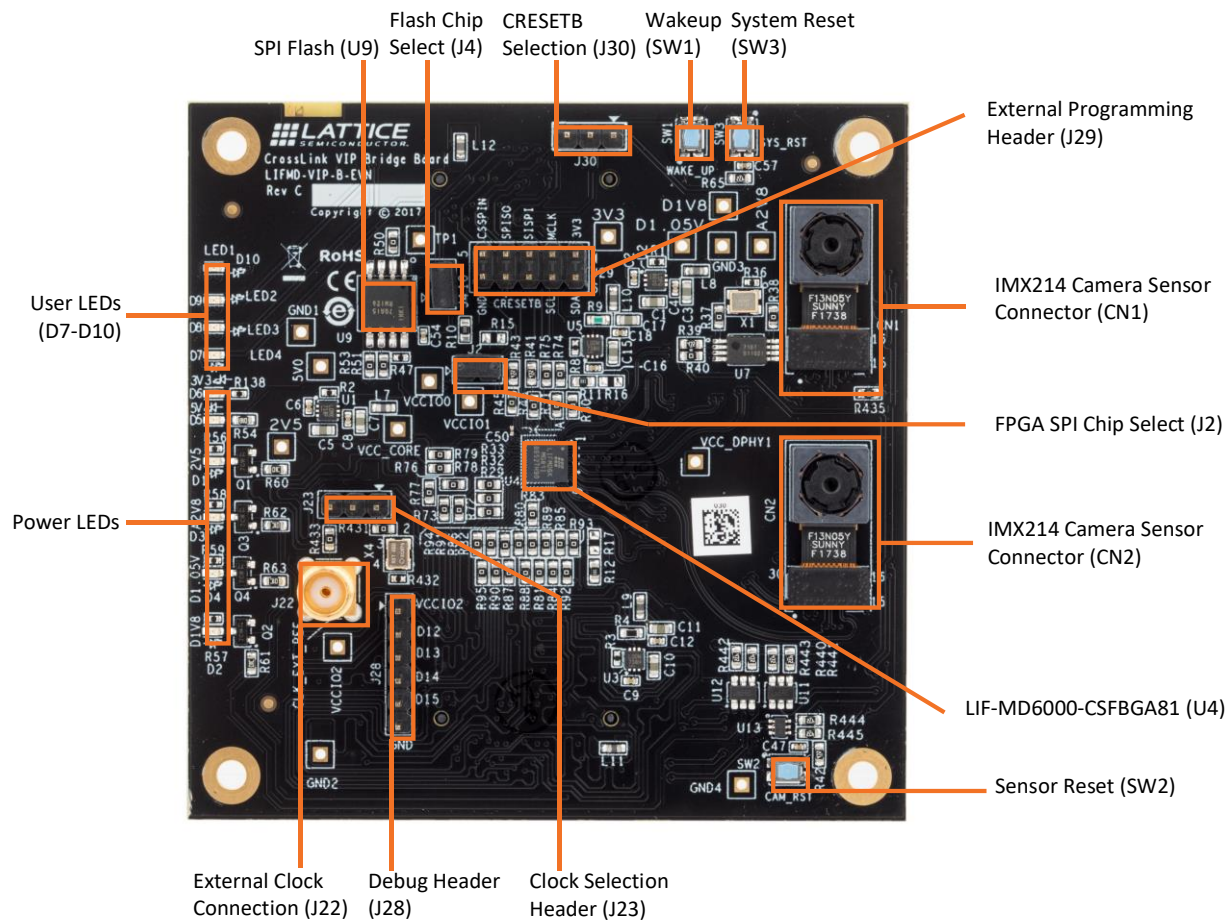

Figure 3.2. Top View of CrossLink VIP Input Bridge Board
2. On the CrossLink VIP Processor Board (Figure 3.2), ensure that SW2 is ON to power the board (LEDs should be ON).